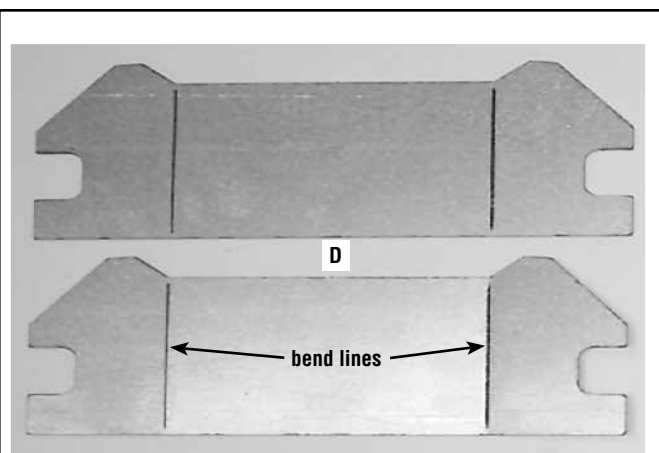

Figure 31 - Log Support Brackets
1. Remove the two log support brackets (D) from the box and bend the ends of the brackets 90 degrees at the bend lines. See *Figures 31 and 32*.